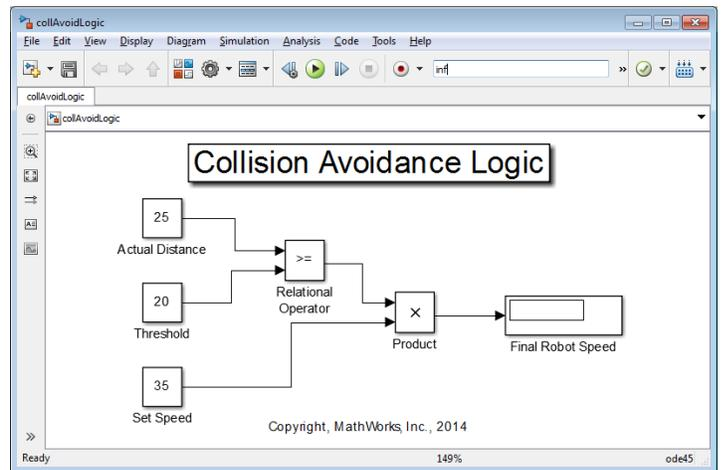

Figure 15: Collision avoidance logic
2. Save the modified model as collAvoidDeploy.slx. It should look like the model in the figure 15 above.